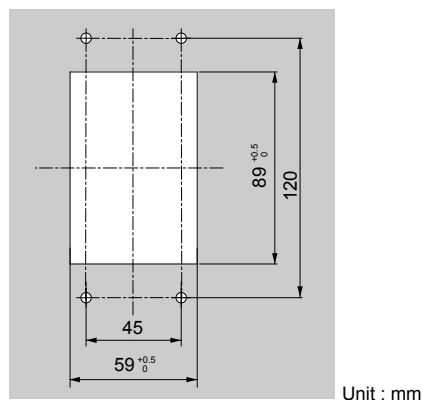

Figure 2.16 Panel Cut-Out Dimensions (Internal/Flush-Mount Installation)
1. Cut an opening in the enclosure panel for the digital operator as shown in Figure 2.16.